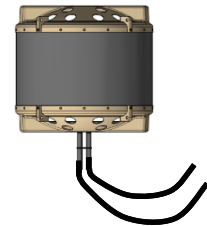

Fig. 6
- For a flexible transition from the connecting pieces to the connection line a flexible connection cable (accessory) can be used (Fig. 6).